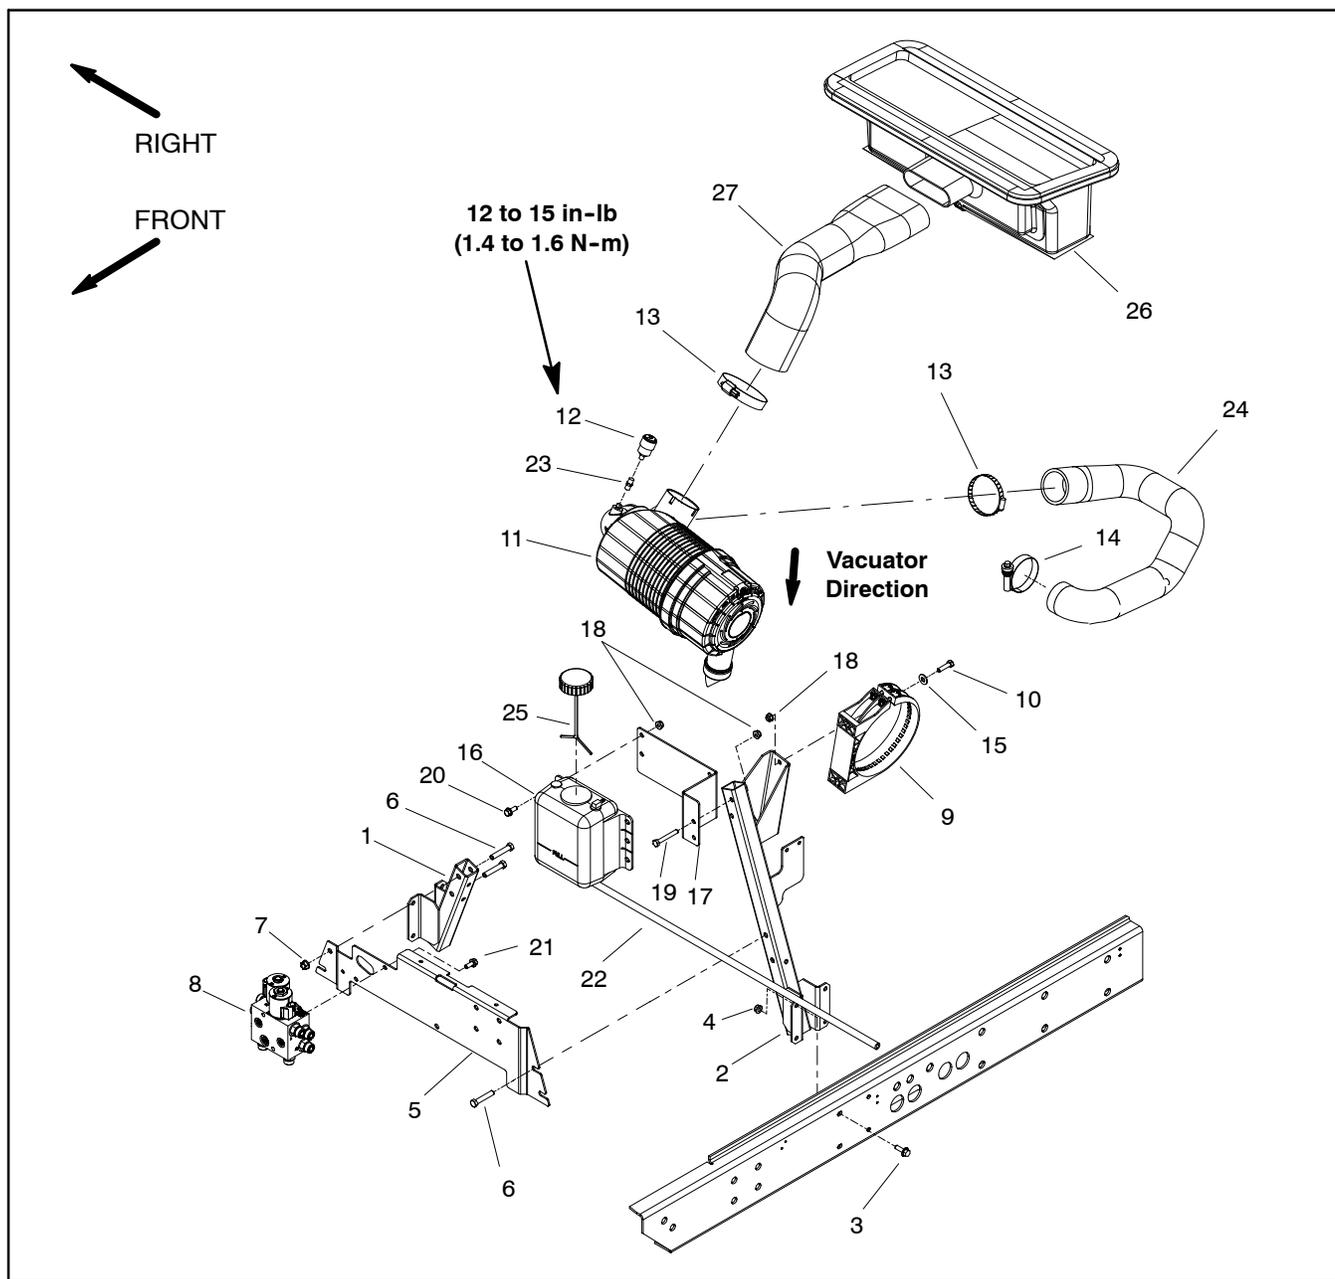

Figure 1
### Removal (Fig. 1)
3. Remove air cleaner components as needed using Figure 1 as a guide.
### Installation (Fig. 1)
1. Assemble air filter system using Figure 1 as a guide.